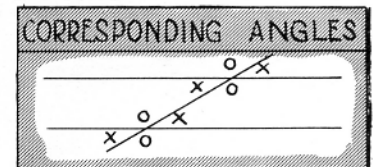

FIG. 339
5. When two straight parallel lines are intersected by a single straight line, the corresponding angles formed by the intersecting line and the parallel lines are equal (Fig. 339). The angles (X) are all equal and the angles (O) are all equal. The upper set of four angles correspond with the lower set of four angles.